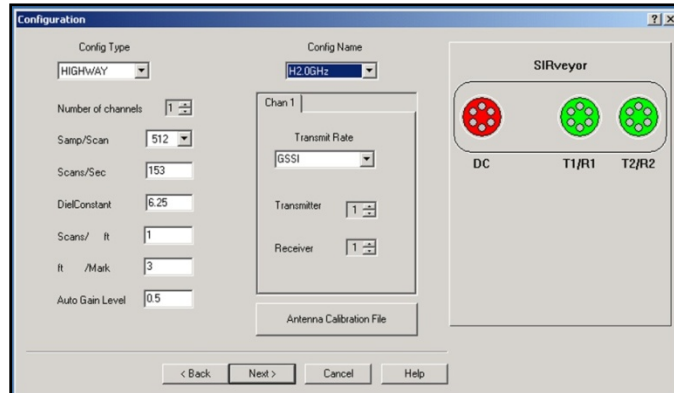

Figure 36: Configuration Window.
- 7** When you have gone the full distance click Save > Next >. This will open a window with the heading Configuration (Figure 36).